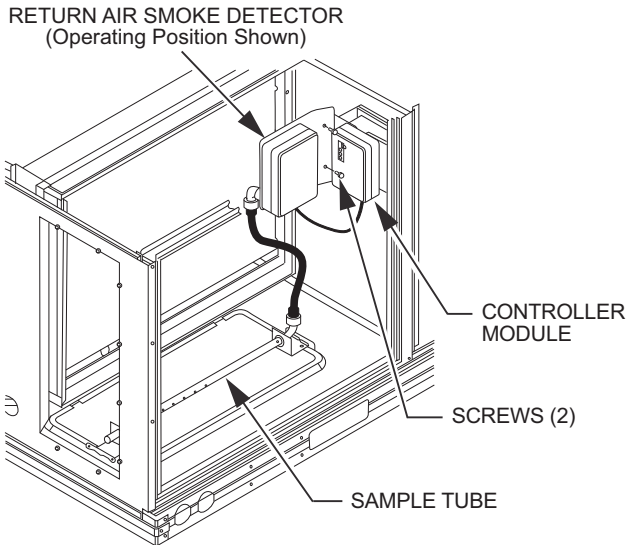

Fig. 44 — Return Air Smoke Detector Operating Position
3. Rotate the detector plate so the sensor is facing outwards and the sampling tube connection is on the bottom. See Fig. 44.